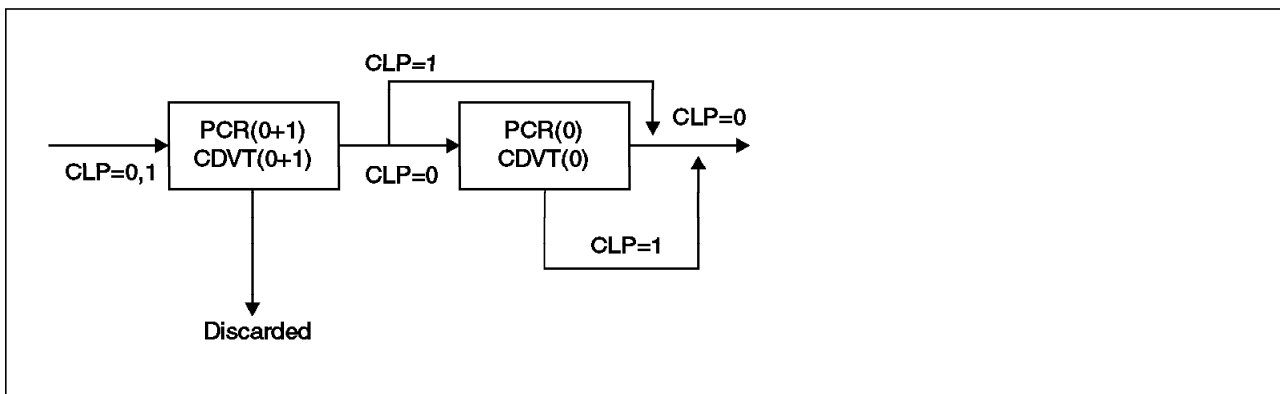

Figure 101. GCRA for Traffic Descriptor 5 (Tagging)
Figure 101 shows the GCRA for traffic descriptor 5 checking PCR(0) and CDVT(0) tagging nonconforming cells and passing them through.